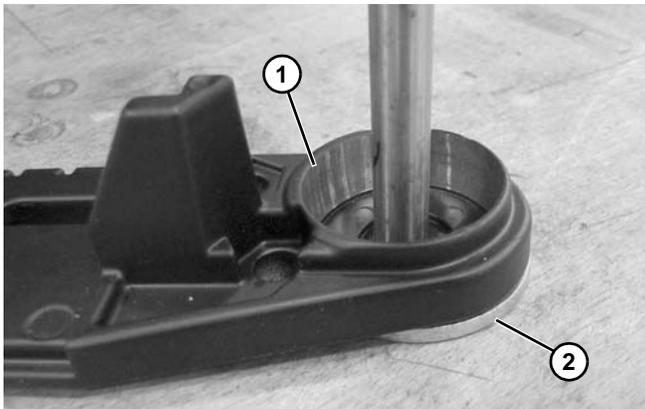

Figure 139
2. Set tail plate (**Figure 139, item 1**) flat side down over washer (**Figure 139, item 2**) or hole in workbench that has a minimum diameter of 5/8".